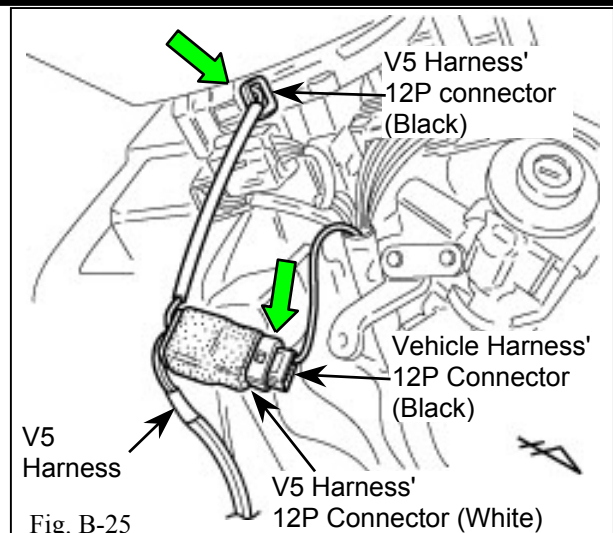

Fig. B-25
37. Plug in the V5 harness' white 12P male connector to the vehicle harness' black 12P female connector. (Fig. B-25)
38. Plug in the V5 harness' black 12P female connector to the steering wheel area. (Fig. B-25)